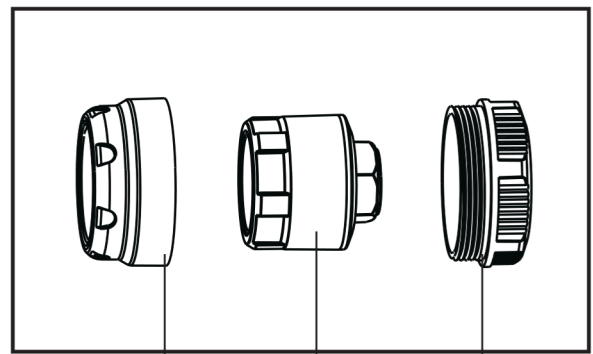

Fig 2 Top Cap Sensor Base Cap
The sensors come supplied with “optional protective caps”. The “protective caps” are a two (2) piece item. If space permits, place base cap onto the valve after the brass nut has been attached to the valve stem then screw sensor onto tyre valve. Finally place top cap over the sensor and screw into the base cap. See Fig 2.